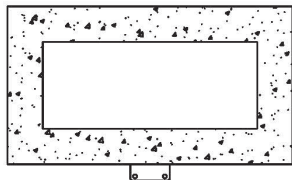

Figure 5
- Mark the two bottom holes position (see Fig. 5).